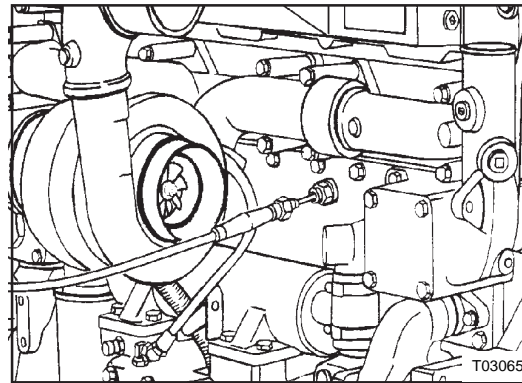

Figure 22 : Temperature gauge in water header plate
2. Install a temperature gauge which is known to be accurate in the water header plate or engine side of the thermostat housing (see Figure 22).